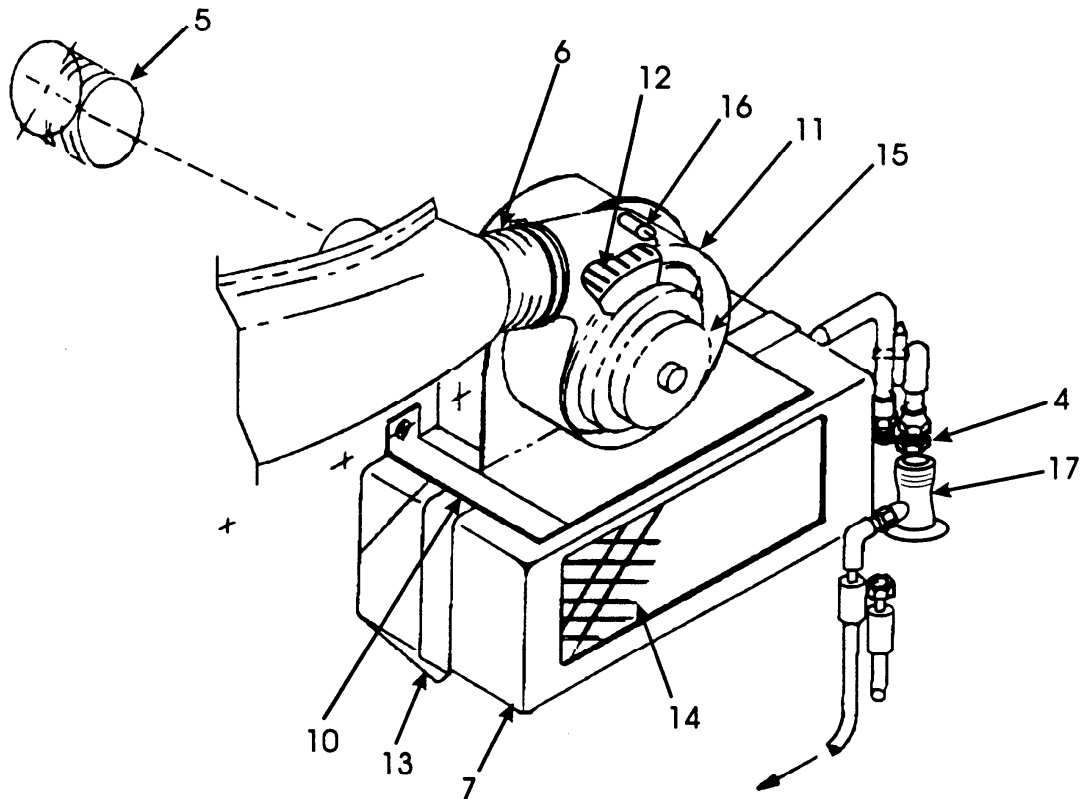

Figure 1. FWD Evaporator Assembly
3. EVAPORATOR MAINTENANCE PROCEDURES (REF. IPL Fig. 1)